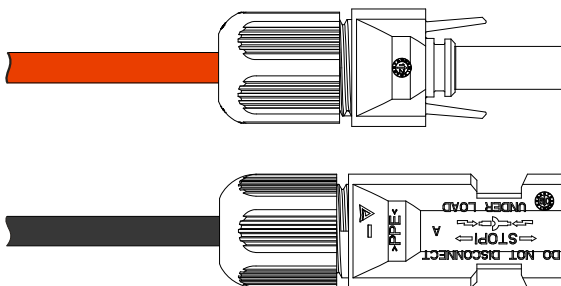

Figure3-29 Tighten the sealing nuts
- Step 4 Tighten the sealing nuts of positive connector and negative connector to the corresponding insulation crusts respectively, as shown in Figure3-29.